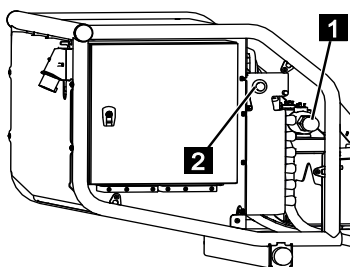

Fig. 182
3. Push in the valve (Fig.182/1) and lock it by turning it clockwise.
4. Press and hold the button [emergency mode] (Fig.182/2).